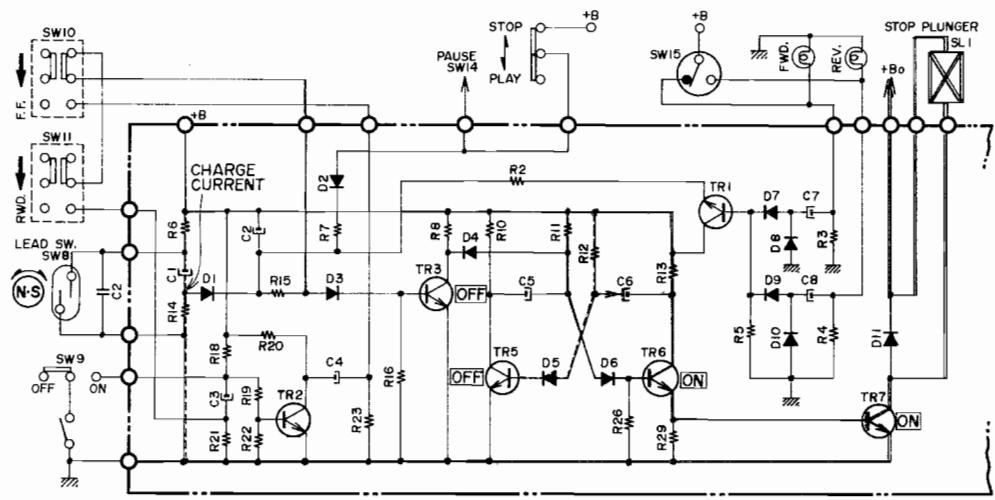

Fig. 41
3. OPERATION WHEN READ SWITCH IS "OFF" AND TAPE TRAVEL IS STOPPED. (Refer to Fig. 41)